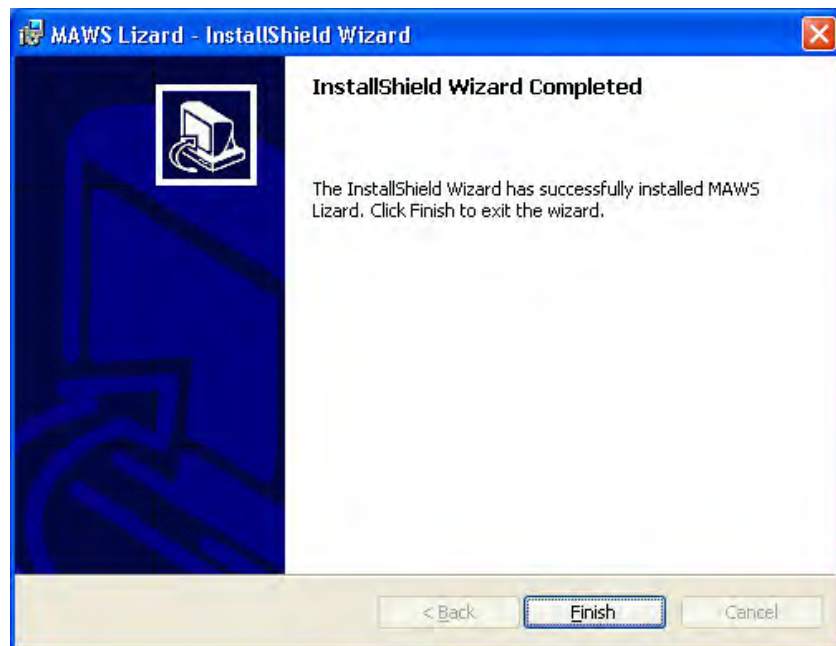

Figure 7 **Installation Completed Window**
8. After the installation is successfully completed, the **Installation Completed** window, presented in Figure 7 on page 30, appears on your screen. Click **Finish** to exit.